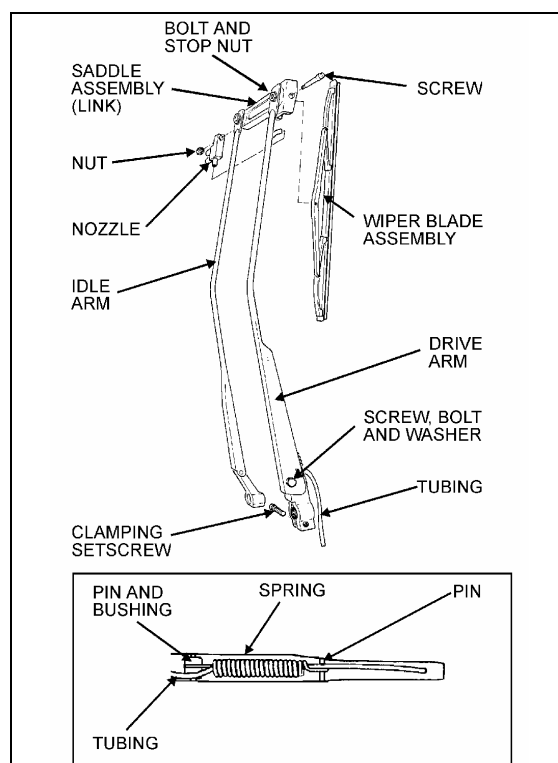
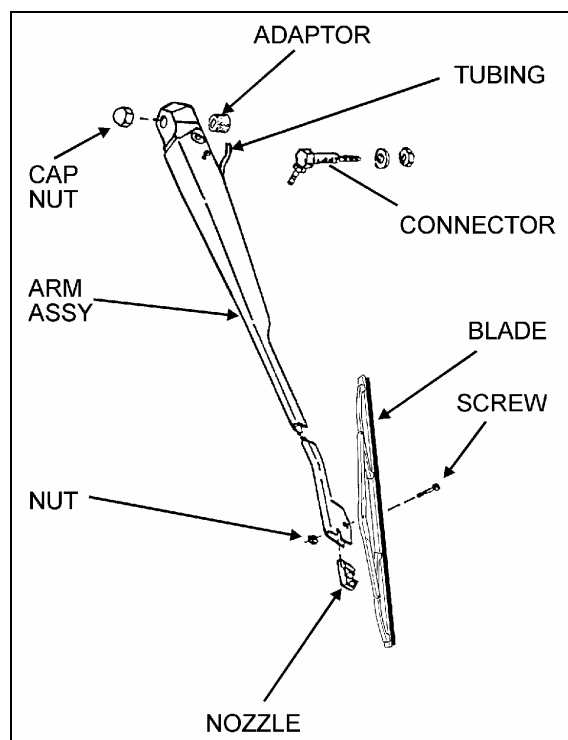

FIGURE 35: LOWER WINDSHIELD WIPER 23086
FIGURE 36: UPPER WINDSHIELD WIPER
1. Remove the cap nuts from the wiper arm pivot shafts (Fig. 35 and 36);
2. Disconnect the windshield washer tubing at the base of the wiper arm (Fig 35 and 36);
3. Lower windshield wiper (Fig. 35): loosen the clamping set screw securing the drive arm to the knurled arm pivot shaft;
4. Remove the drive and idler arms (Fig. 35) or arm assembly (Fig. 36);
5. Relocate the drive arm (Fig. 35) or arm assembly (Fig. 36) on its knurled pivot shaft to obtain the desired position;
6. Lower windshield wiper (Fig. 35). Tighten the clamping set screw to secure the drive arm to the knurled shaft. Fit the idler arm onto the idler pivot shaft.
8. Connect the windshield washer tubing at the base of the wiper arm (Fig. 35 and 36);
9. Check the adjustment on a wet windshield (Fig. 35 and 36).
1. Remove the cap nuts from arms (Fig. 35 and 36);
2. Disconnect the windshield washer tubing at the base of the wiper arm (Fig. 35 and 36);
4. Lower windshield wiper (Fig. 35): loosen the clamping set screw on the base of the drive arm;
5. Remove the wiper arm assembly (Fig. 35 and 36).
1. Make sure the wiper motor is in the stop position. Lower windshield wiper (Fig. 35): position the wiper arm on the knurled drive shaft and idler arm on the pivot shaft. Upper windshield wiper (Fig. 36): position the wiper arm assembly on the knurled drive shaft;
4. Lower windshield wiper (Fig. 35): Tighten clamping nut onto the drive arm. Install cap nuts onto the arm shafts (Fig. 35 and 36);
5. Connect the windshield washer tubing at the base of the wiper arm (Fig. 35 and 36);
6. Check the adjustment on a wet windshield (Fig. 35 and 36).